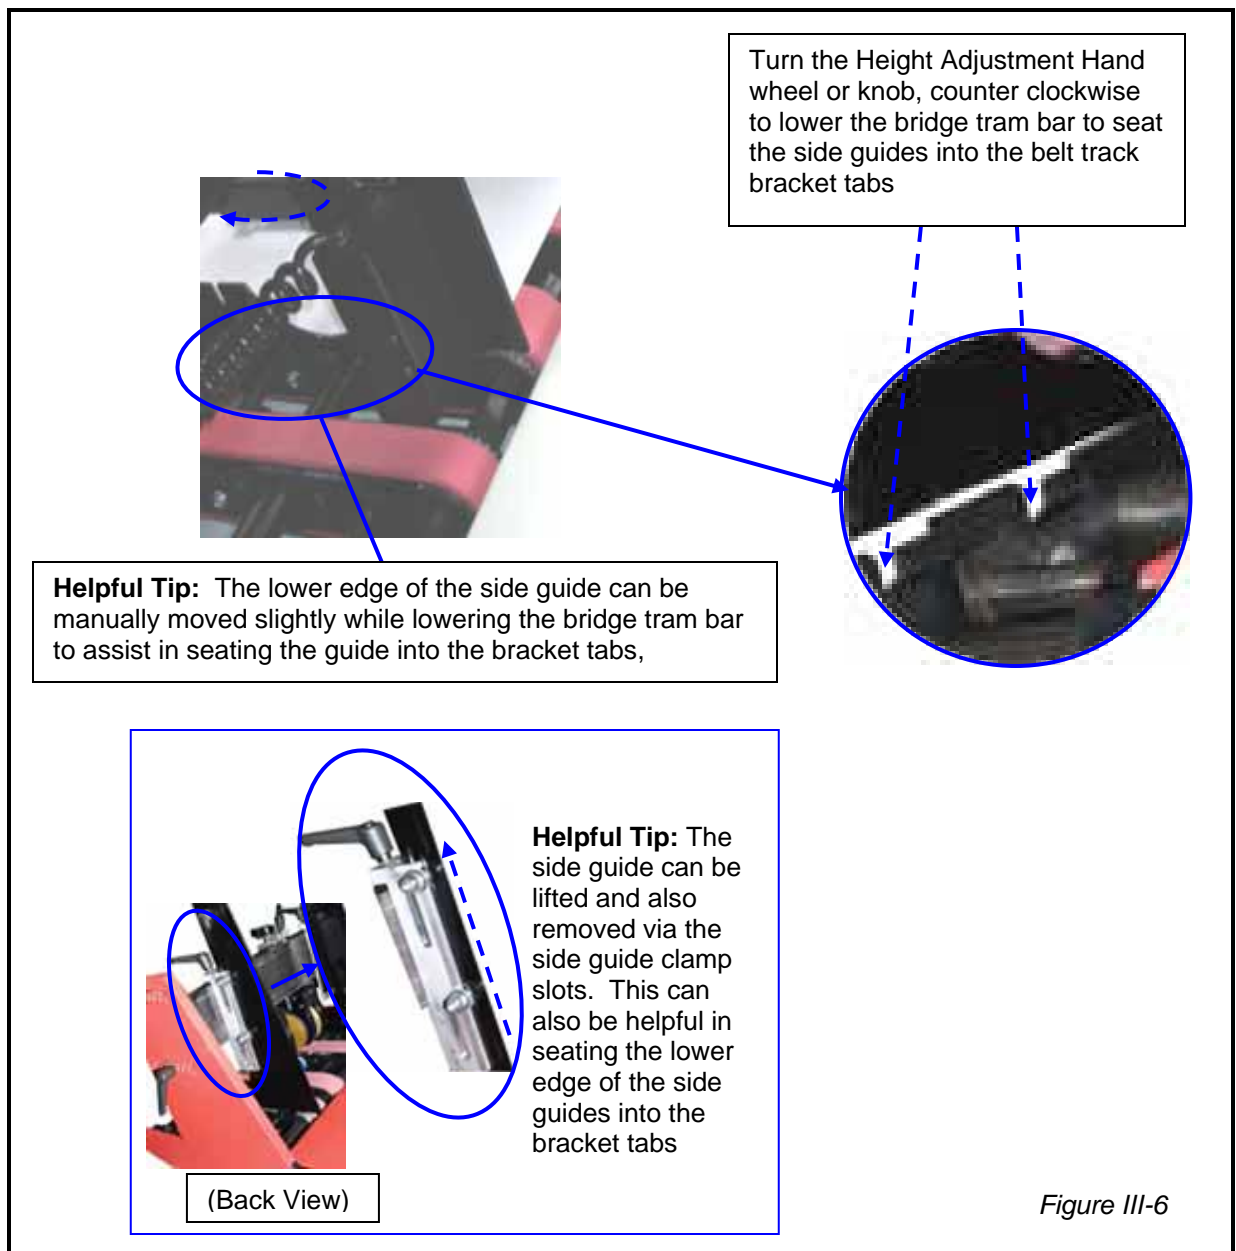

Figure III-6
10. Lower the bridge tram bar until the material side guides are seated in the belt track bracket tabs, see figure III-6. **(Helpful Tip:** The material side guides clamps are slotted so that you can lift up on the side guides without disturbing the clamps and manually assist in the seating process. The clamps may also need to be moved slightly to accommodate seating the side guides.)